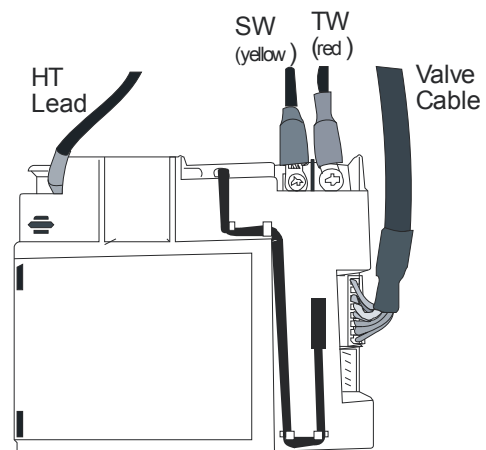

Figure 39
2. Gently pull out the HT lead and the valve cable from the receiver (see **Figure 39**).